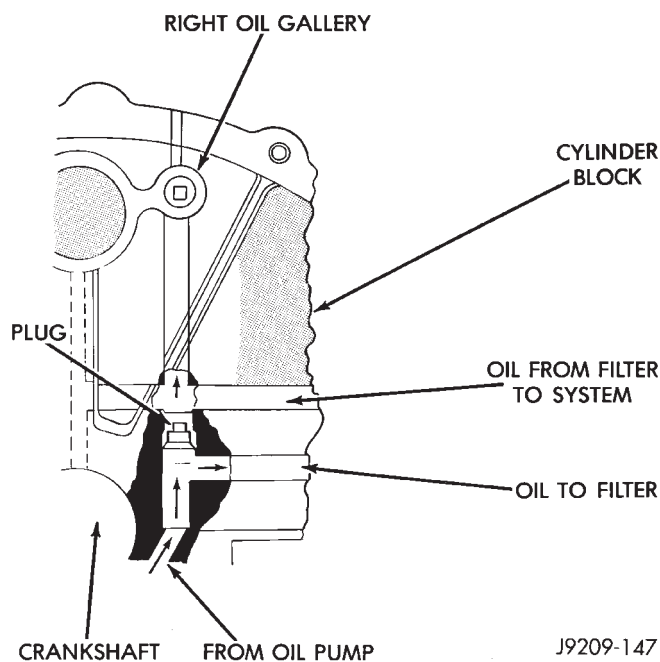

Fig. 20 Oil Line Plug
The oil line plug is located in the vertical passage at the rear of the block between the Oil-To-Filter and Oil-From-Filter passages (Fig. 20). Improper installation or plug missing could cause erratic, low or no oil pressure.
(1) Remove oil pressure sending unit from back of block.
(2) Insert a 3.175 mm (1/8 inch) finish wire or equivalent into passage.
(3) Plug should be 190.0 to 195.2 mm (7-1/2 to 7-11/16 inches) from machined surface of block (Fig. 20). If plug is too high, use a suitable flat dowel drift to position properly.
(4) If plug is off location, remove oil pan and rear main bearing cap. Use suitable flat dowel to remove plug. Coat outside diameter of new plug with Mopar (Stud and Bearing Mount Adhesive), or equivalent. Plug should be 54.0 to 57.7 mm (2-1/8 to 2-5/16 inches) from bottom of the block.
(5) Assemble engine and check oil pressure.